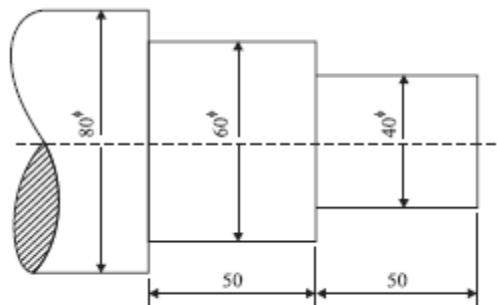

Fig. 5.22
- 1 Calculate the machining time to turn the dimensions shown in Fig. 5.22. Starting from a m.s. bar of  $\phi$  80 mm. The cutting speed with HSS tool is 60 meters per minute and feed is 0.70 mm/rev., depth of cut is 2.5 mm per pass. (16) BT3